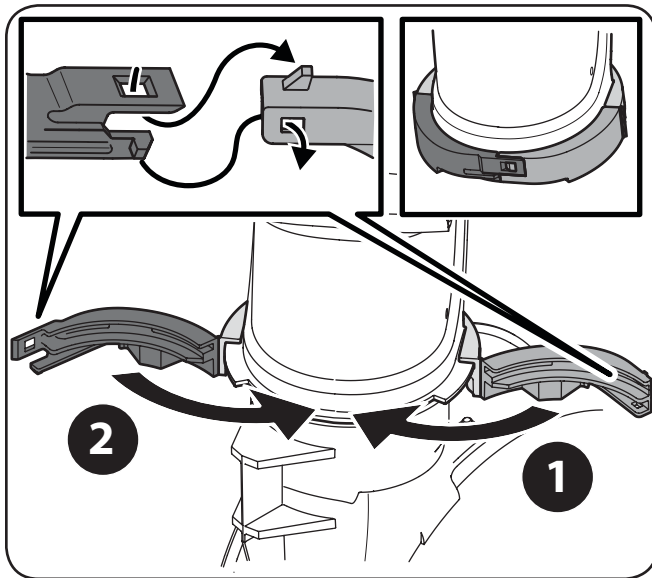

Figure 3-5
- Secure the chute band to itself by first aligning the two snap-fit features and pushing the two ends (1 & 2) together as shown. Be sure both tabs on the two ends engage each other, as shown in the top left inset of Figure 3-5. When properly assembled, the chute band will appear as in the top right inset of Figure 3-5.
**IMPORTANT:** If you need to remove the chute for any reason, a screw driver must be used to release the locking tabs shown above in the left inset of Figure 3-5.